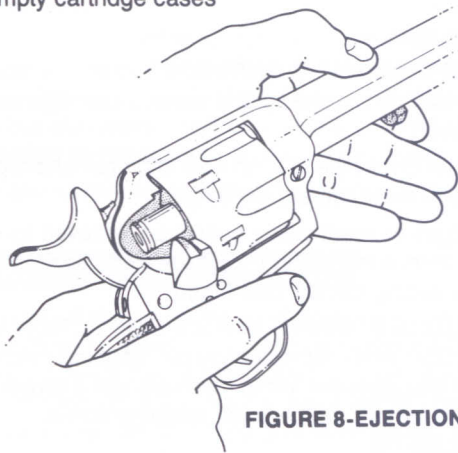

FIGURE 8-EJECTION
4. KEEPING FINGERS AWAY FROM TRIGGER, align chamber as shown in Figure 8 and push ejector rod, (located under the barrel) backwards through cylinder chamber, forcing out the live round or empty case, which should be removed from revolver. Allow ejector rod to return forward under its spring action.
4. KEEP FINGERS AWAY FROM TRIGGER, align chamber as shown in Figure 8, tilt revolver muzzle up and remove cartridge as it slides back out of the chamber.